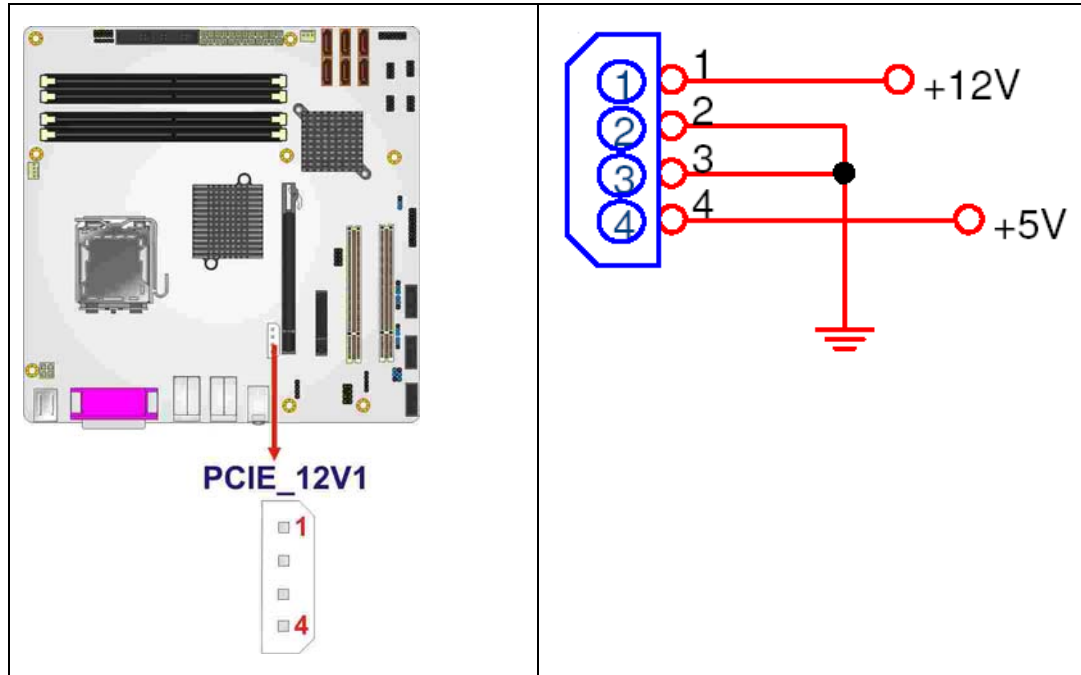

Figure 4-12: PCIe Power Connector Location
- CN Location:** See **Figure 4-12**